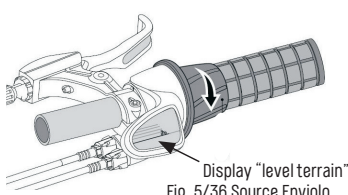

Fig. 5/36 Source Enviolo
- Anticlockwise rotation: Display shows "level terrain" ("Fig. 5/ Source Enviolo" on page 36). This transmission should be selected for faster travel.